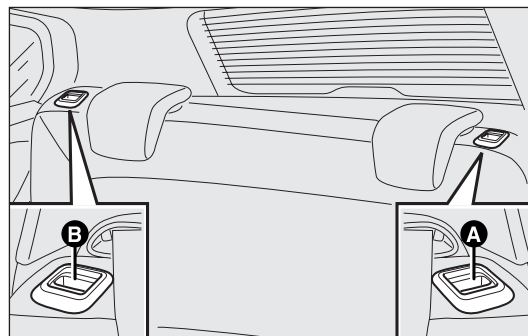

fig. 77
- operate the handles A and B-fig. 77 to release the backrests and guide them down onto the cushion.